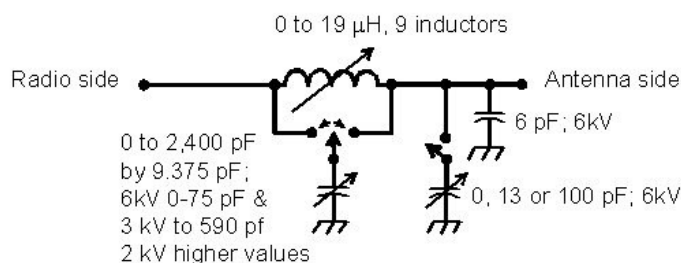
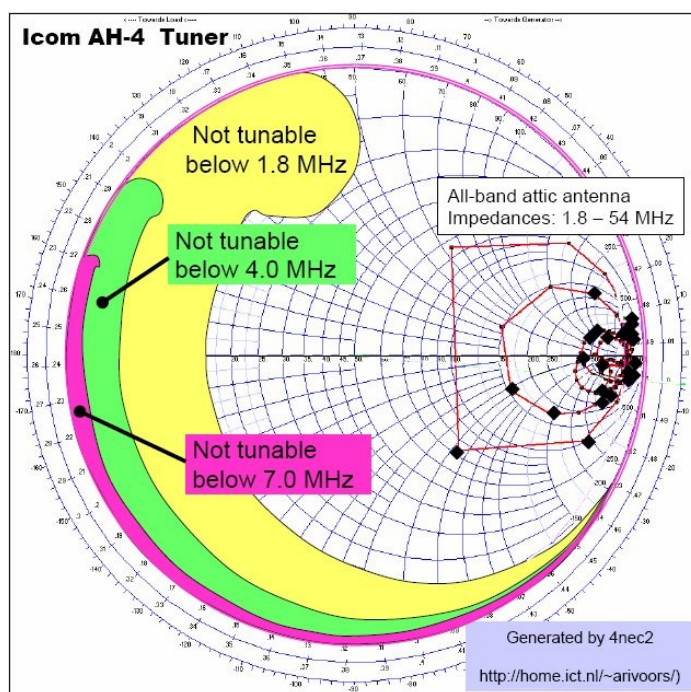

Figure 1 – The AH-4 circuit allows for 1,048,576 tuning combinations.
Figure 2 – The range of impedances that the AH-4 can match between 1.8 and 54 MHz.
I analyzed the Icom AH-4 using the reversible L network tuner circuit shown in **Figure 1**. I then analytically placed a 50 W resistor on the “Radio side” and calculated the impedances on the “Antenna side” while stepping through the allowed component values for the two reversible L cases (0 to 2400 pF capacitor bank on the output, then on the input), and across ham bands from 1.8 to 54 MHz. I used *MathCAD* for analysis.
Next, I reported on a Smith chart the complex conjugate of the calculated impedances on the “Antenna side”. This maps the impedances that the AH-4 can match, given the range of component values and steps in **Figure 1**. **Figure 2** shows the range of impedances the AH-4 can match plotted on a Smith chart.
Notice how the coverage on the Smith chart gets whittled away as the frequency decreases. It indicates that the component values, especially the inductances, do not have sufficient range to cover the whole chart at those lower frequencies! Impedance coverage is not continuous, but depends on the step size of the components, and that granularity is implied here by the inductor and capacitor steps in **Figure 1**. For example, high end of the spectrum, 6 m band tuning points are spread out (not shown) more than at lower frequencies on the Smith chart. The tuner range of matching is completely specified by:
(1) the tuner topology, here in **Figure 1**, a reversible L network with additional switched capacitance on the antenna side
(2) the range of component values and the component step size; usually the minimum value of the inductor and minimum value of the capacitor in the capacitor bank.